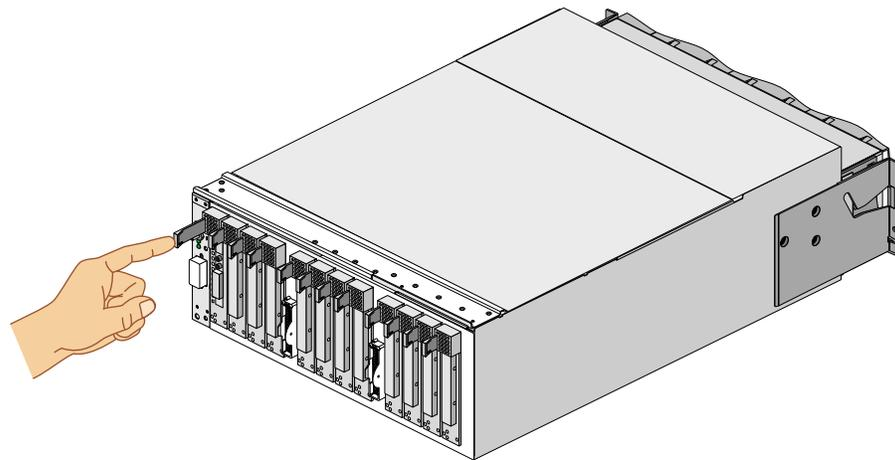

Figure 6-8 Seating the PCI Card in the Slot
5. Pushing horizontally on the PCI carrier's seating bar, as shown in Figure 6-8, seats the PCI card securely in the slot. The PCI slot will need to be powered off after the card is installed.